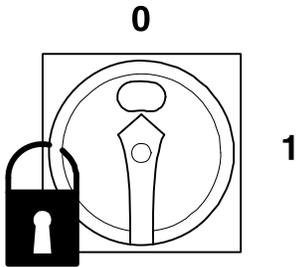

Fig. 1: Main switch "0" and secure
2. Where possible, secure the switch with a lock and affix a clearly visible notice on the switch as per Fig. 1.